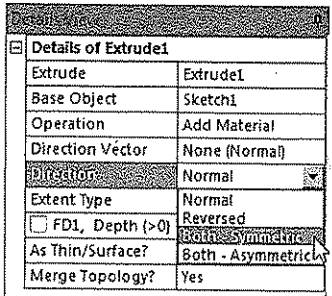

Figure 3-35 Selecting the **Both-symmetric** option from the **Direction** drop-down list in the **Detail View** window
- 3. Based on the design requirements, the material should be added normal and symmetrically on both sides of the sketch. To add material to the extrusion, click on **Direction**; a down arrow is displayed on the right of **Direction** in the **Details View** window. Next, click on the down arrow and select the **Both-Symmetric** option from the list displayed, as shown in Figure 3-35. The preview of the extruded feature is changed in the **Graphics** window and now it displays the same amount of material added on both sides of the sketch.